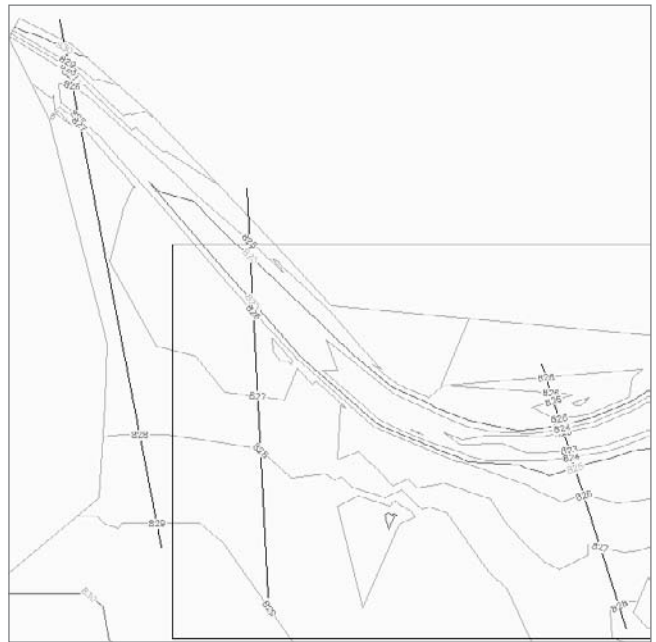

Figure 7.14
9. Repeat steps 6, 7, and 8 with the other labels in the rectangle (828 elevations) and adjust them as desired. After a little grip editing, you should wind up with something similar to Figure 7.14.